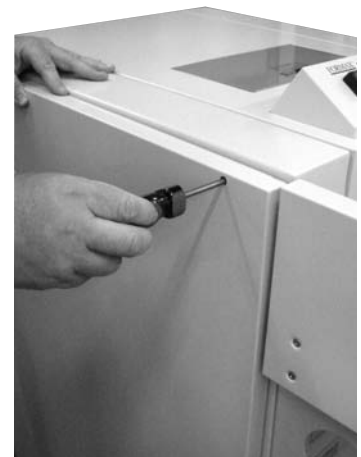

Fig. 4
1. To remove a cover, insert screwdriver through access holes (Fig. 4), and remove screws.